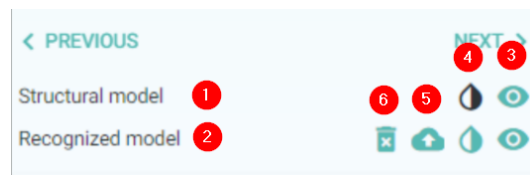

Figure 22: Recognized and Structural model
Now you have successfully converted your active objects in the scene. In the model view settings, you can see now two models: The structural model (1) and the Recognized model (2). Besides the already known toggle buttons for visibility (3) and transparency (4), you can see also the new "Delete recognized model" (5) and "Save recognized model" (6) on the Figure 22.